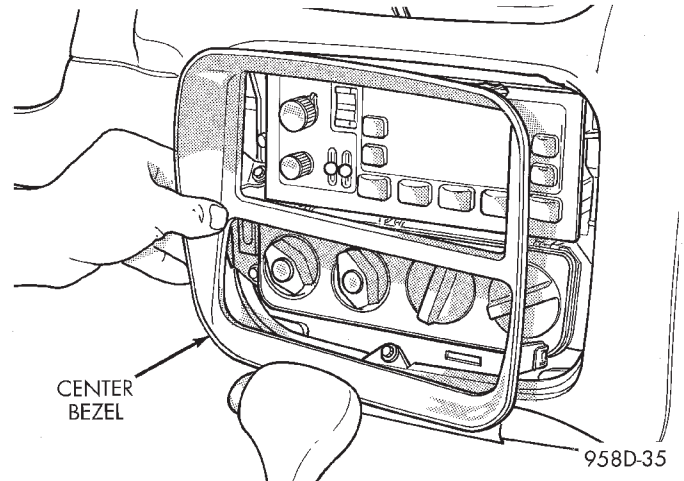

Fig. 5 Center Bezel
(5) Remove center bezel surrounding radio and climate control panel from top cover of instrument panel (Fig. 5).